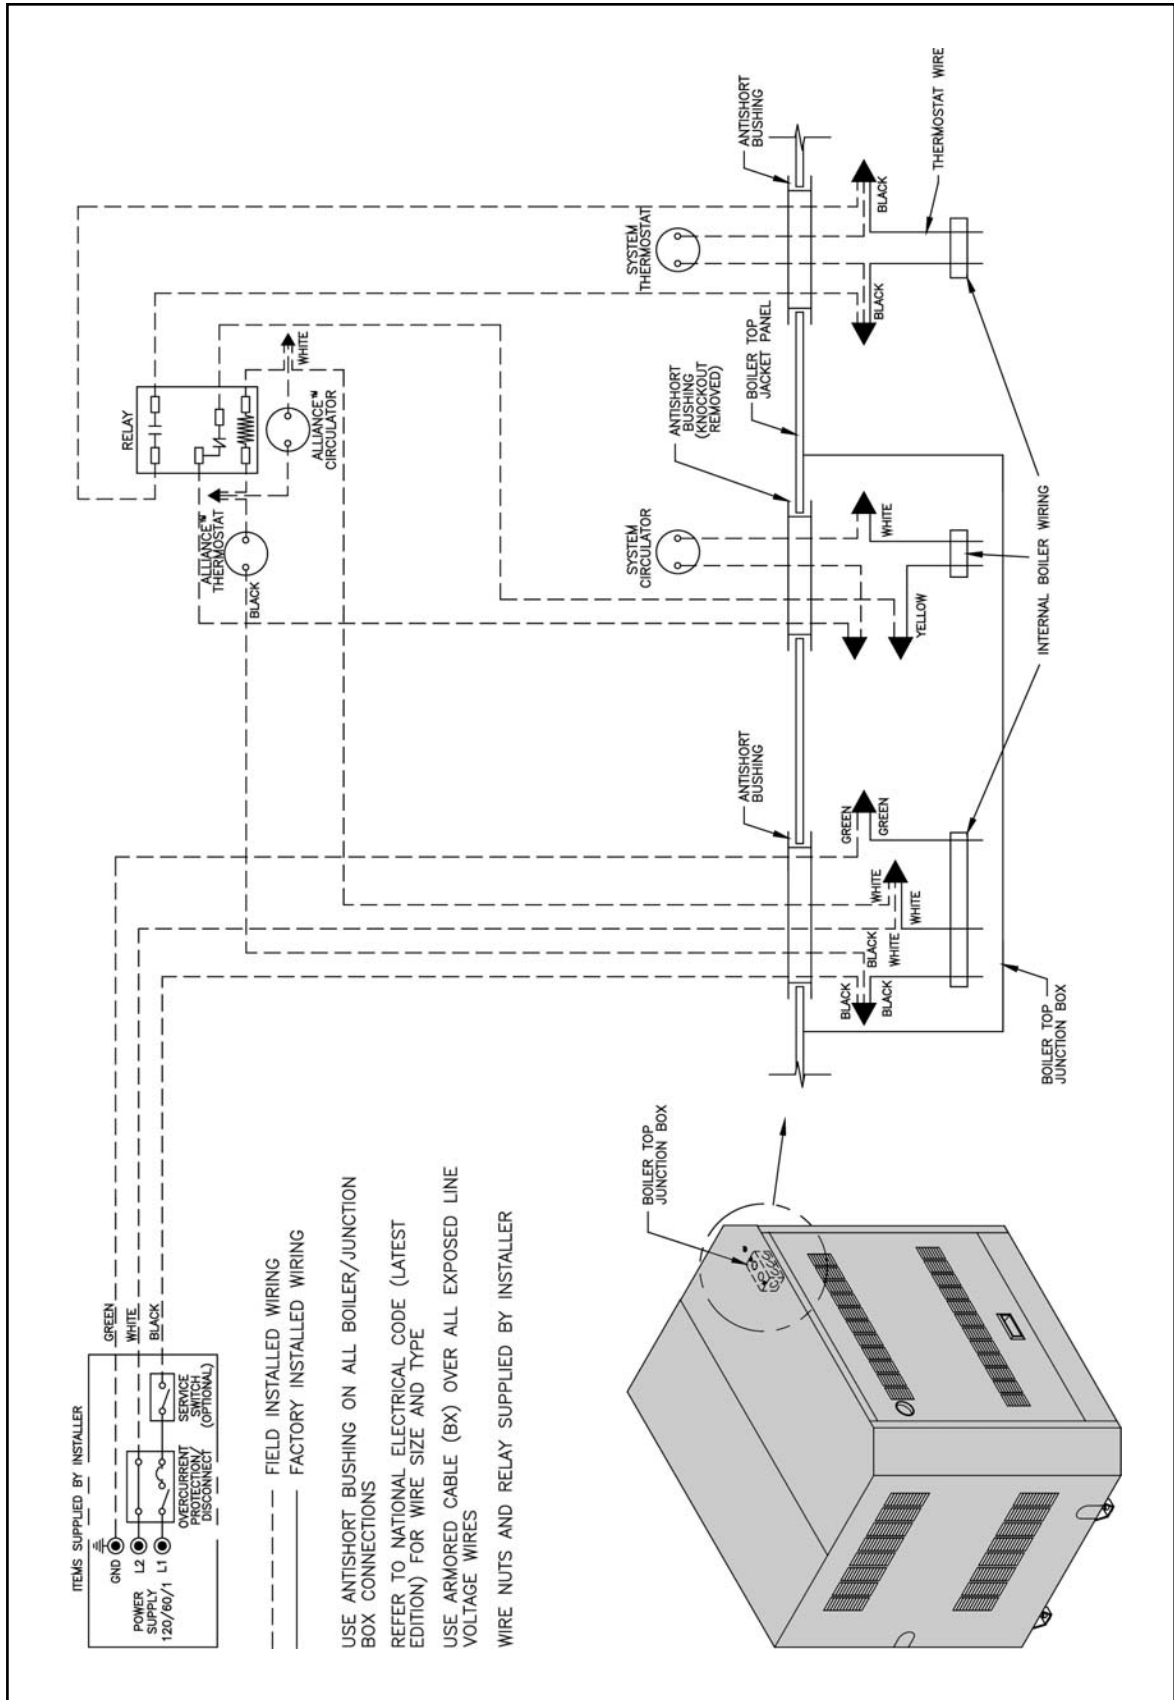

Figure 34: Single Zone System with Packaged Alliance™ Water Heater Wiring Schematic
6. Single Zone Heating System with Alliance™ Water Heater - Refer to Figure 34 of this manual for the electrical diagram for this type of system.